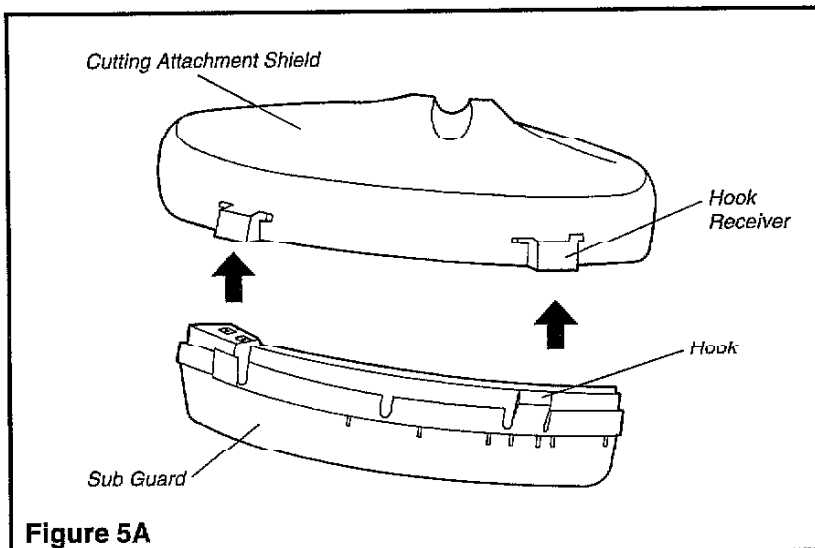

Figure 5A
1. Install the sub guard. See Figure 5A.